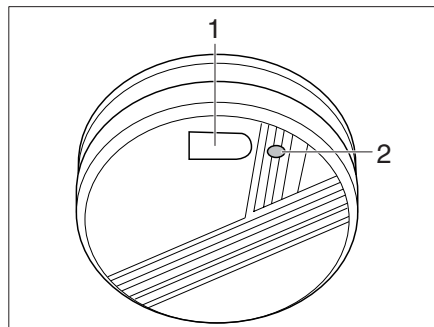

Fig. 122 Smoke Alarm
- ▶ Depress the test button (Fig. 122,1). The red LED (Fig. 122,1) flashes quickly and in the mean while the detector sounds. It means, the detector works well.